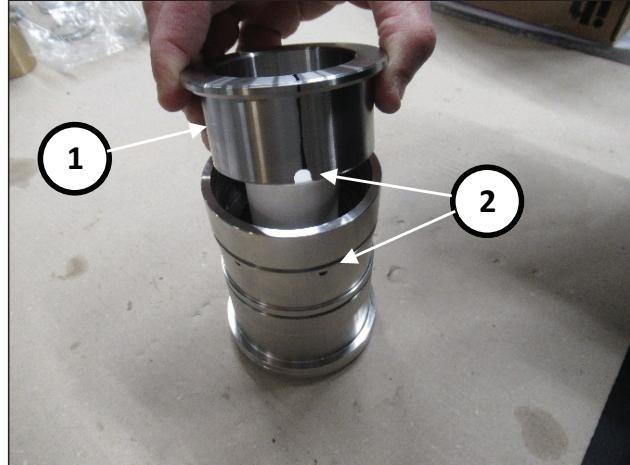

Fig. 177
Insert the outer ring of the tool No. 27945400 (pos. ①, Fig. 177) aligning the openings with the holes in the liner (pos. ②, Fig. 177).